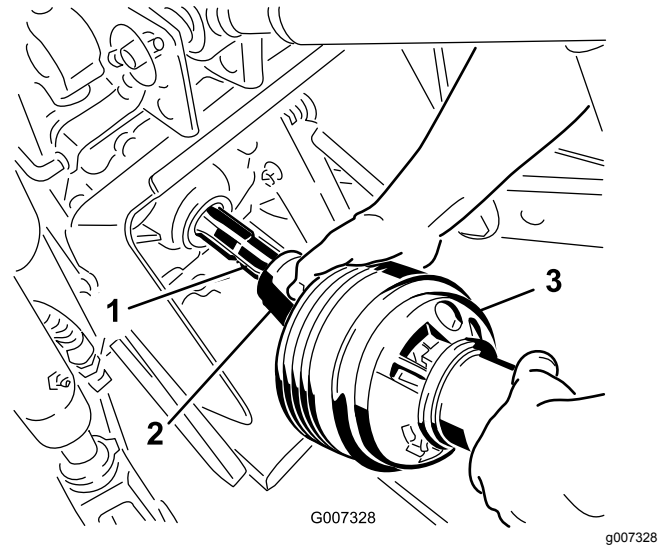

Figure 24
3. Connect the PTO shaft to the tractor PTO shaft (Figure 24).